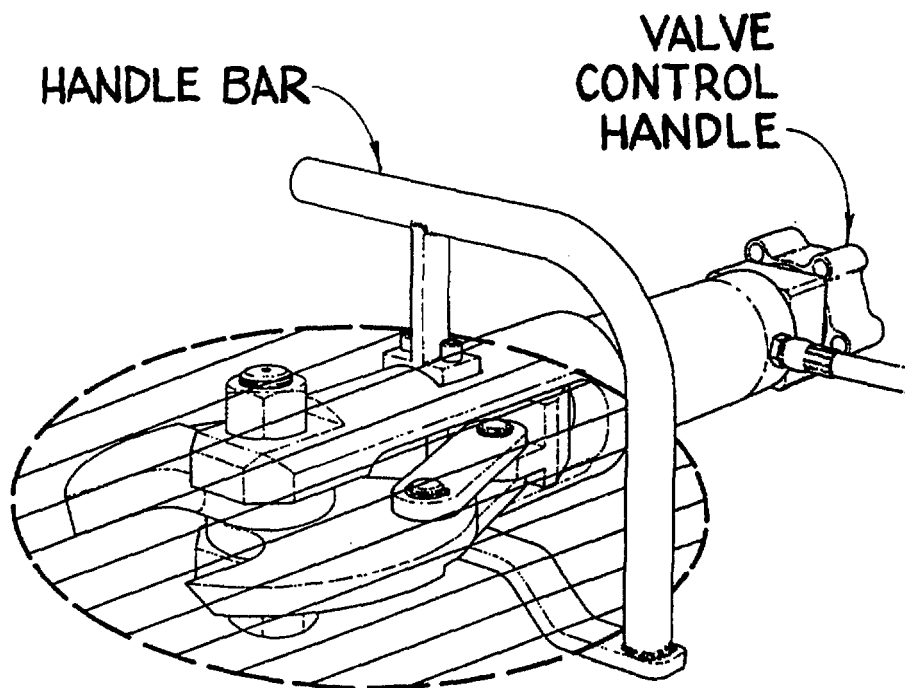

Figure 2-9.
- ! NEVER PUT HANDS OR ANY OTHER BODY PART IN THE AREA OF THE LINKAGE OR CUTTER BLADE, INJURY CAN OCCUR (FIGURE 2-9).